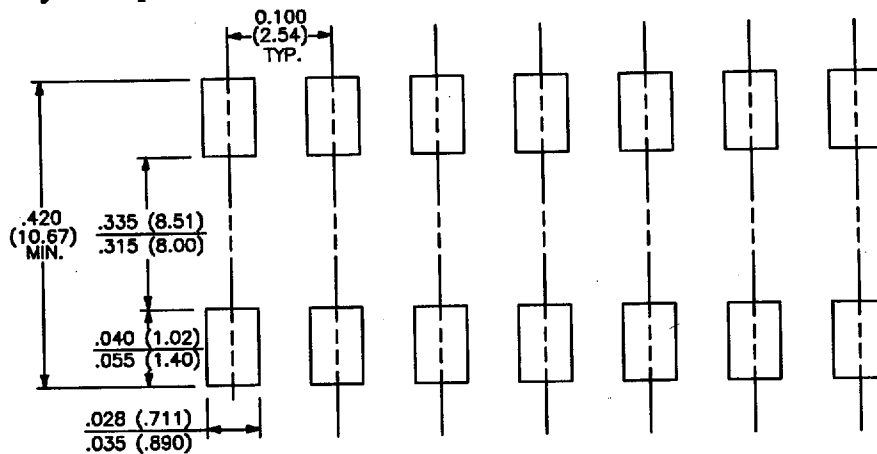

FIGURE 26: Recommended solder pad footprint, 14-pin Gull Wing configuration.
- **Figure 26 represents the 14-pin GULL WING solder pad we recommend and is basically the equivalent of the industry standard SO-28 footprint utilizing every other pad (i.e. lead centers are .100" instead of .050").**